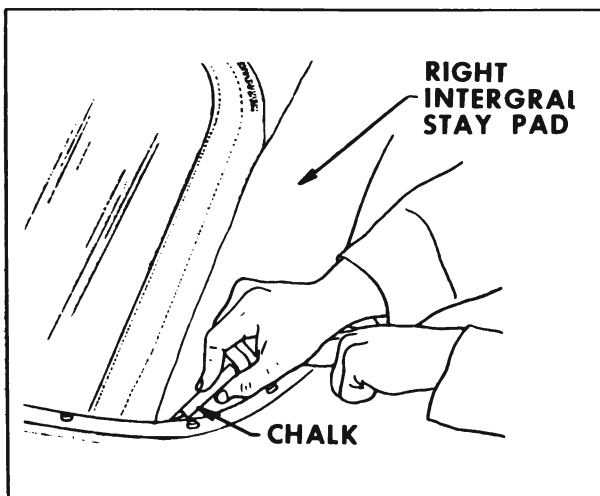

Figure 7-41—Reference Chalk Mark
19. Where required, place reference chalk mark on outer surface of back curtain or quarter stay pads along pinchweld finishing molding. Readjust back curtain assembly and/or stay pads as required (see Figure 7-41).